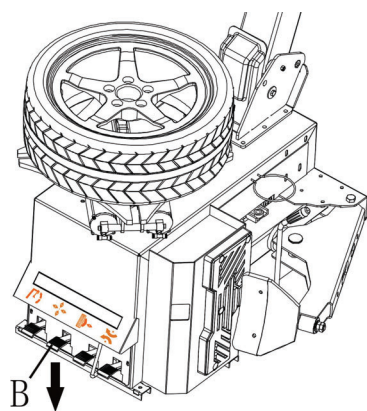

Fig.19
- Place the wheel on the turntable. Depress pedal B, For the asymmetric deep groove rim, keep the narrow rim upward (Fig. 19) .